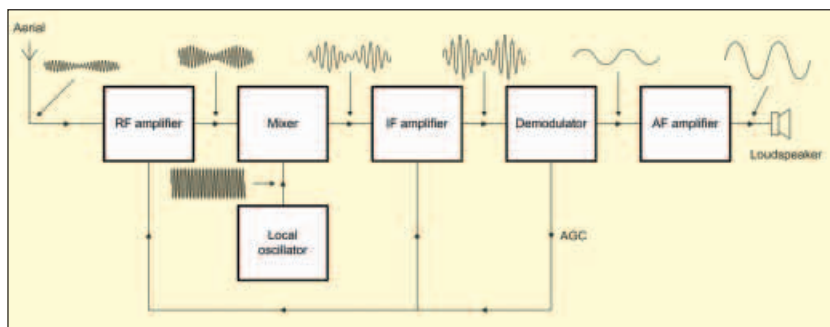

Fig.11.7. Block schematic for a superhet receiver
on adjacent channels) when compared with TRF receivers. Superhet receivers are based on the "heterodyne" principle in which the wanted input signal is converted to a fixed intermediate frequency (IF) at which point the majority of the gain and selectivity is applied. The intermediate frequency chosen is generally 455kHz or 470kHz for AM receivers and 10.7MHz for FM receivers. The simplified block schematic of a superhet receiver is shown in Fig.11.7.